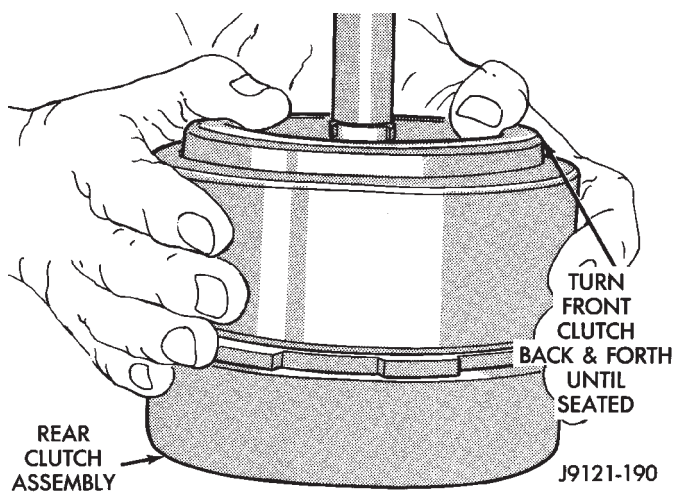

Fig. 115 Assembling Front And Rear Clutch Units
(13) Align clutch discs in front clutch and install front clutch on rear clutch (Fig. 115). Rotate front clutch retainer back and forth until completely seated on rear clutch retainer.